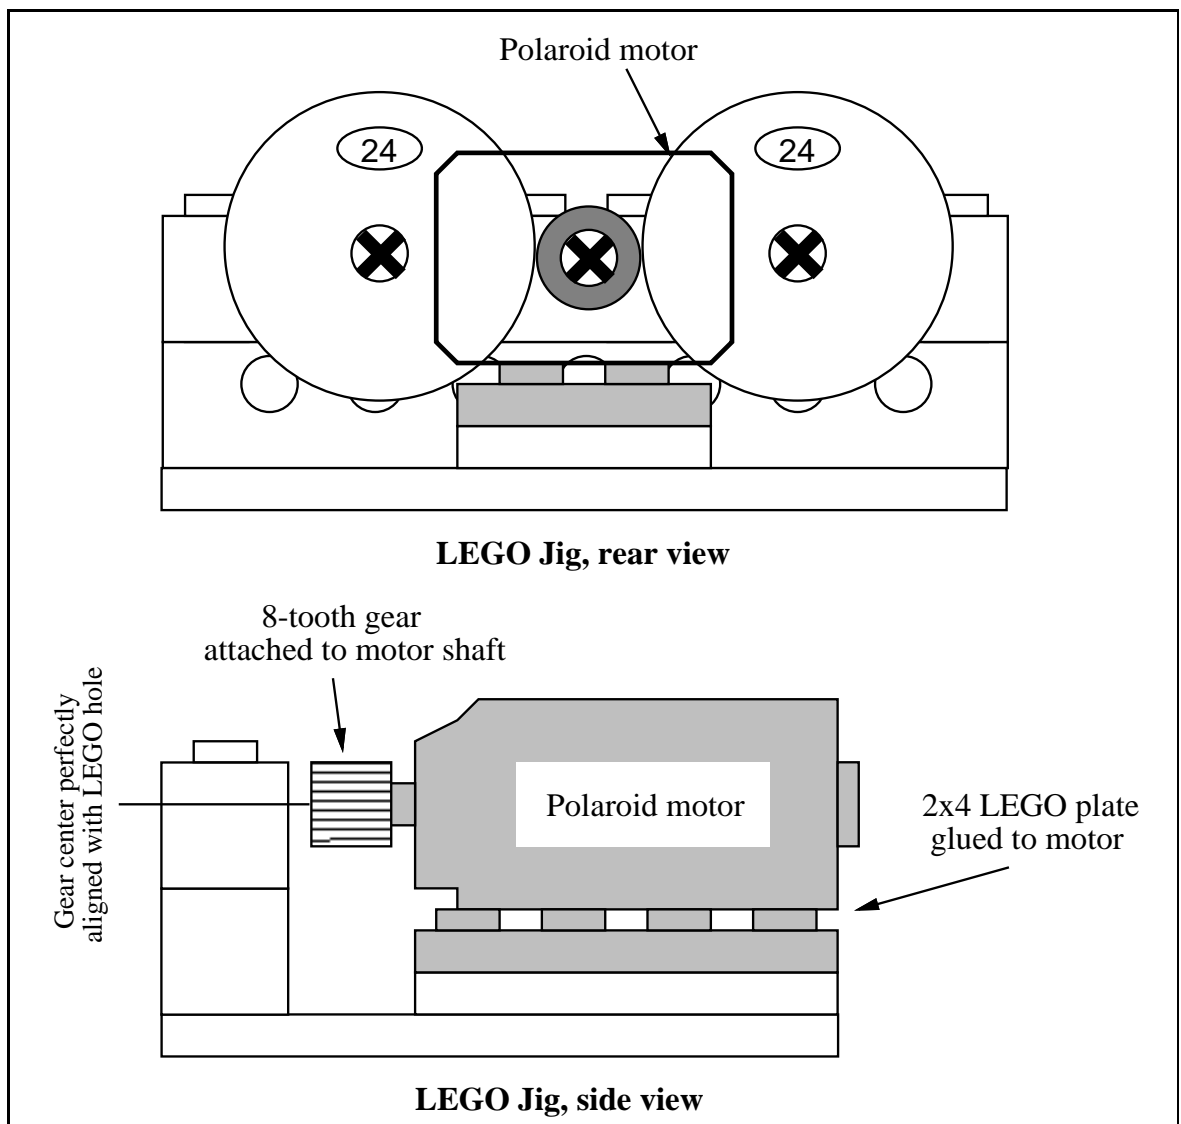

Figure 1.32: LEGO Jig for Mounting Polaroid Motor
This platform or jig is shown in Figure 1.32. It is constructed from two 2×8 beams, one 6×8 flat plate, one 2×4 plate, two 24-tooth gears, and two axles.
- Assemble the jig as shown in Figure 1.32. A second 2×4 plate will be mounted to the motor.